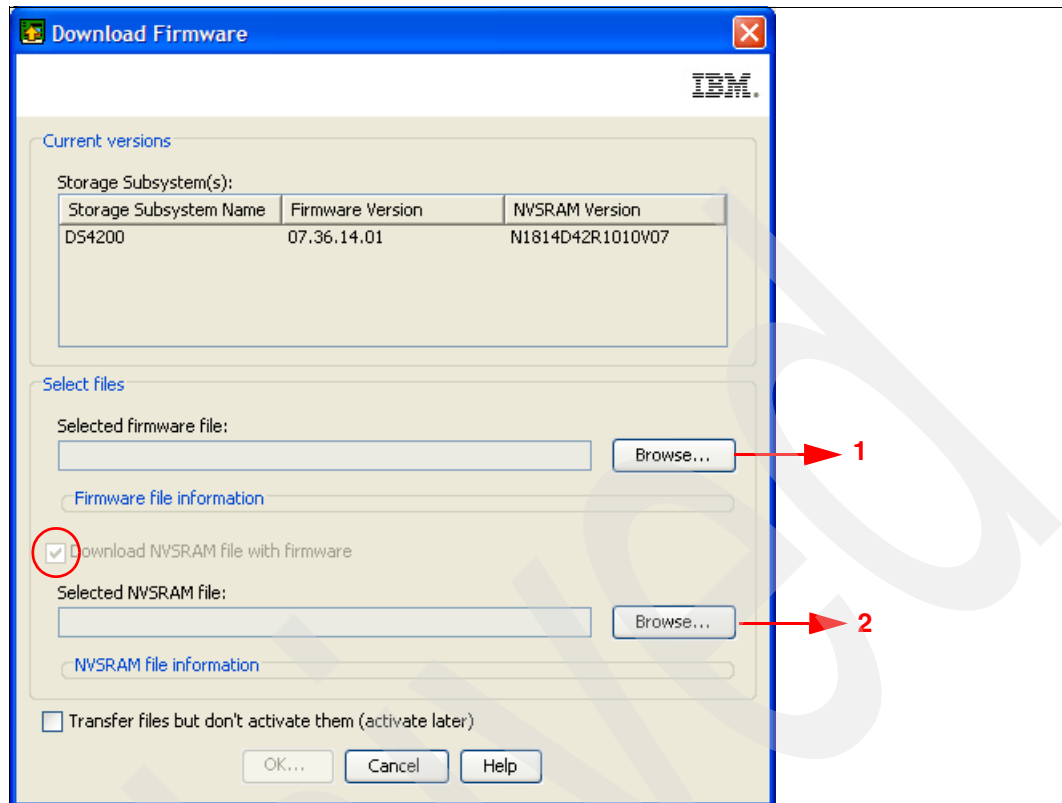

Figure 7-14 Download Firmware window
- Select the controller firmware file that you want to download by clicking **Browse** for the Selected firmware file field (marked as “1” in Figure 7-14 on page 343) to choose the file from a directory on your computer.
- Select the NVSRAM file you want to download by clicking **Browse** for the Selected NVSRAM file field (marked as “2” in Figure 7-14 on page 343) to choose the file from a directory on your computer. Leave the check mark (marked in Figure 7-14 on page 343) checked to update both, NVSRAM and firmware in one step.